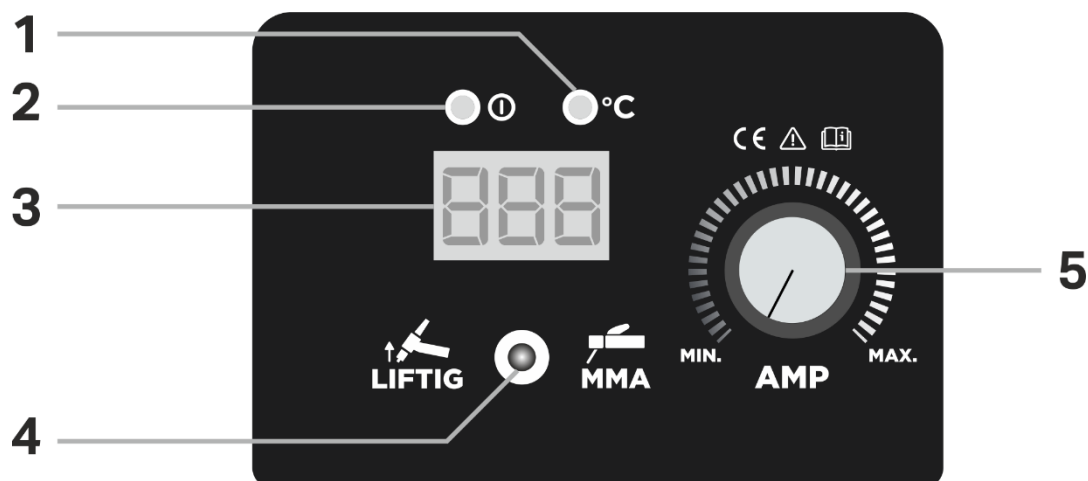

Fig. 1
- Adjust the welding current value (Fig.1 - 5), in accordance with the following table: